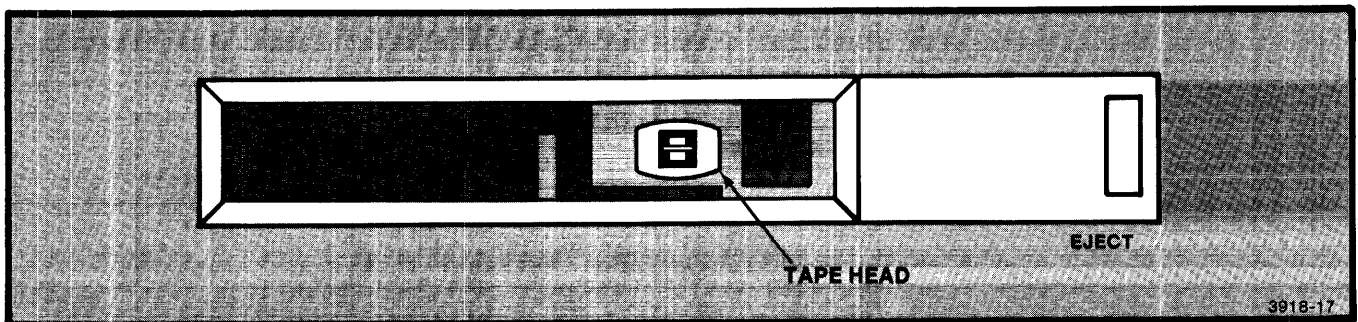

Figure 5-1. The DC-100 Tape Read/Write Head.
The surface of the internal magnetic tape unit read/write head (Figure 5-1) must be kept clean to preserve the life of the tape head and to prevent data errors. Oxide deposits, dust, and other foreign deposits may be left on the tape head during tape operation. These deposits act as abrasives, causing excessive wear on both the tape head and the magnetic tape itself. The lifetime of magnetic tape cartridges is directly related to the condition of the tape head.
2. Hold the tape door open and inspect the tape head by shining a light at an angle across the surface of the head. Figure 5-1 shows the placement of the tape head within the tape compartment.